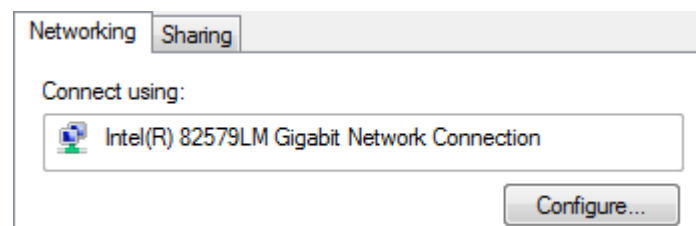

Figure 116: Access to network interface card driver settings
3. Press the *Configure* button below the name of the physical network interface, shown in Figure 116.